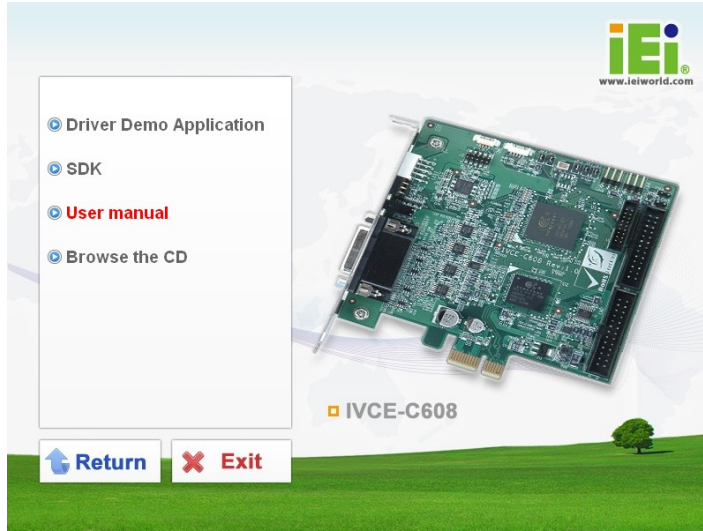

Figure 6-2: Driver Directory Icon
Step 3: The screen in **Figure 6-2** appears.
Step 4: Double click the **Driver Demo Application** directory icon in **Figure 6-2**.